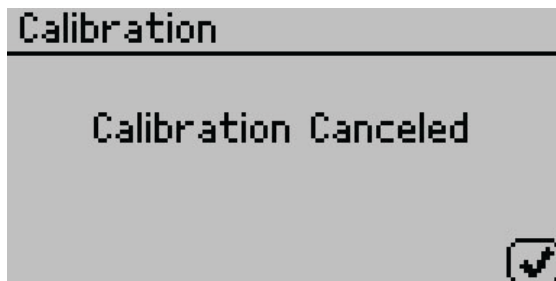

Figure 60 Calibration canceled confirmation
15. If the calibration is canceled at any point, a Calibration Canceled confirmation will appear. Select **OK** to continue (Figure 60).